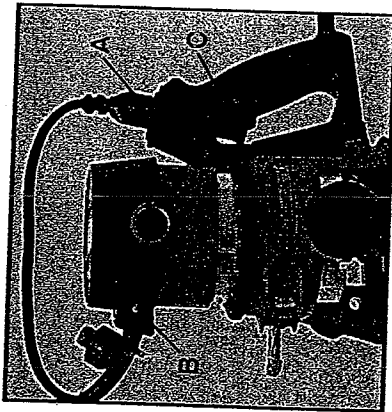

Fig. 8
When using the base with the switch-in-handle as shown in Fig. 8, be sure the motor unit power cord (A) is plugged into the handle as in Fig. 8, and the switch (B) on the motor is set to the ON position. The starting and stopping of the motor is then controlled by depressing and releasing the trigger switch (C) in the handle of base.
On applications when it is desirable to keep the motor running without continually holding in the trigger switch (C), Fig. 8, simply depress the trigger (C) into the handle and press in the switch locking button on the side of the handle. While holding the button in, slowly release the trigger. To stop the motor, squeeze trigger into handle and release to disengage locking button.